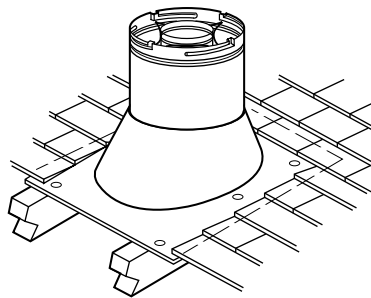

Figure 20
J. Install the roof flashing - Extend the vent sections through the roof structure. Install the roof flashing over the vent section and position such that the vent column rises vertically (use carpenter's level) (**Figure 20**). Nail along perimeter to secure flashing or adjust roofing to overlap the flashing edges at top and sides only and trim where necessary. Seal the top and both sides of the flashing with waterproof caulking.